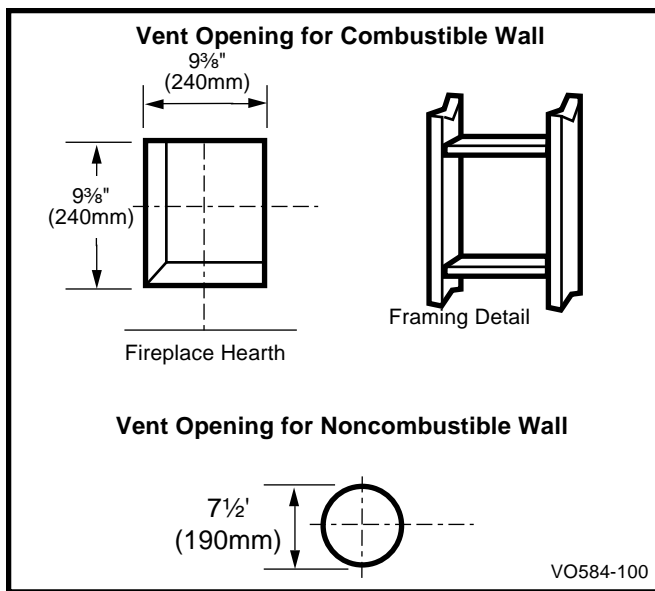

Fig. 14 Locate vent opening on wall.
Locate the vent opening on the wall. It may be necessary to first position the fireplace and measure to obtain hole location. Depending on whether the wall is combustible or noncombustible, cut opening to correct size. (Fig. 14) For combustible walls, first frame in opening.
Combustible Walls: Cut a $9\frac{3}{8}"$ x $9\frac{3}{8}"$ (240mm x 240mm) hole through the exterior wall and frame as shown. (Fig. 14)
1. Establish vent hole through the wall. (Fig.14)